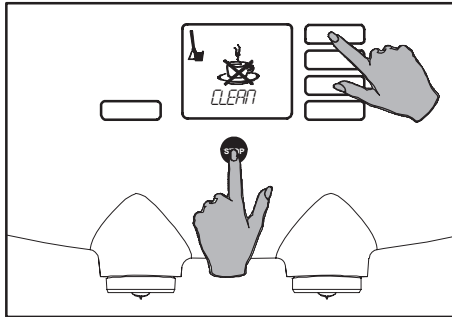

Fig. 44 Access to the operator menu
1. Activate the operator menu whenever the cleaning message shows in the display (fig. 44).